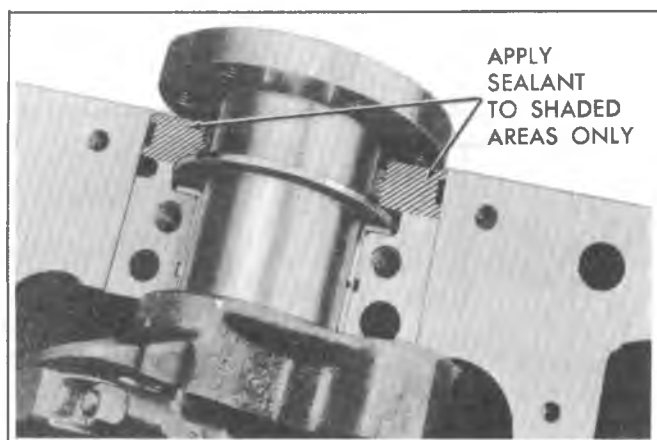

Fig. 6A4-60--Sealing Bearing Cap
5. Apply a thin coat of brush-on type oil sealing compound to block mating surface and corresponding surface of cap only (fig. 6A4-60). Do not allow sealer on crankshaft or seal.